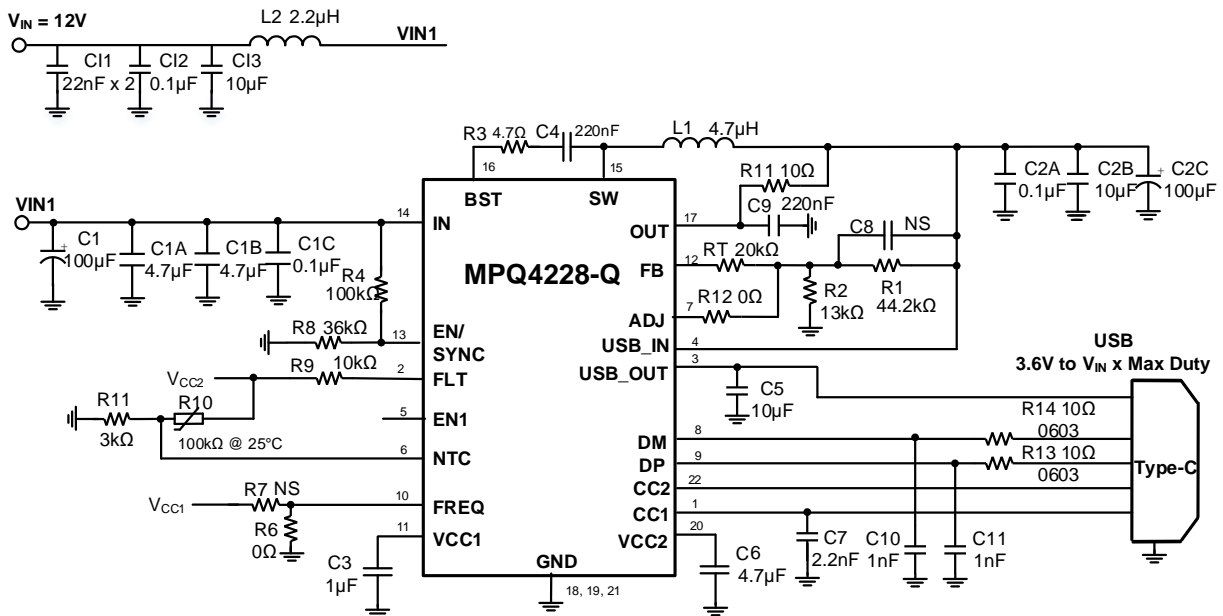

Figure 17: Typical Application Circuit ($V_{IN} = 12V$, USB Type-C 5V @ 3A DFP and QC3.0 Mode)
- 9) The recommended layout is based on the Typical Application Circuit (see Figure 17 on page 30).